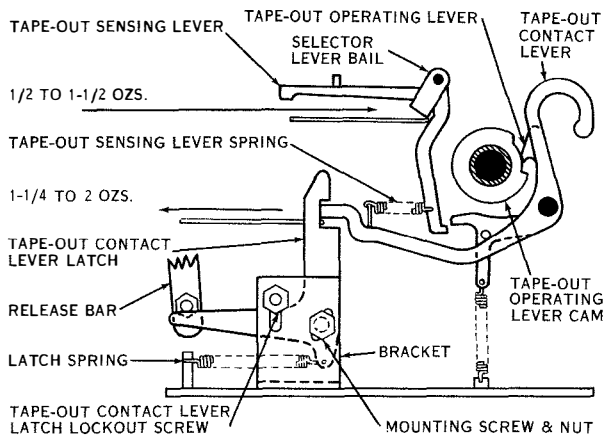

Figure 7-86. Tape-out Contact Lever Latch and Sensing Lever Spring Tensions
(17) TAPE-OUT CONTACT LEVER LATCH SPRING TENSION. (See figure 7-86.)—When the tape-out operating lever is resting on the low part of its cam, hook an eight-ounce scale over the contact lever
(30) TAPE-OUT SENSING LEVER SPRING TENSION. (See figure 7-86.)—When the tape-out sensing pin is up as far as it will go, a tension of $\frac{1}{2}$ to $1\frac{1}{2}$ ounces should be required to start the tape-out sensing lever moving. To check, place the push end of an 8-ounce scale at the bend in the tape-out sensing lever, just below the selector lever bail, and push horizontally.